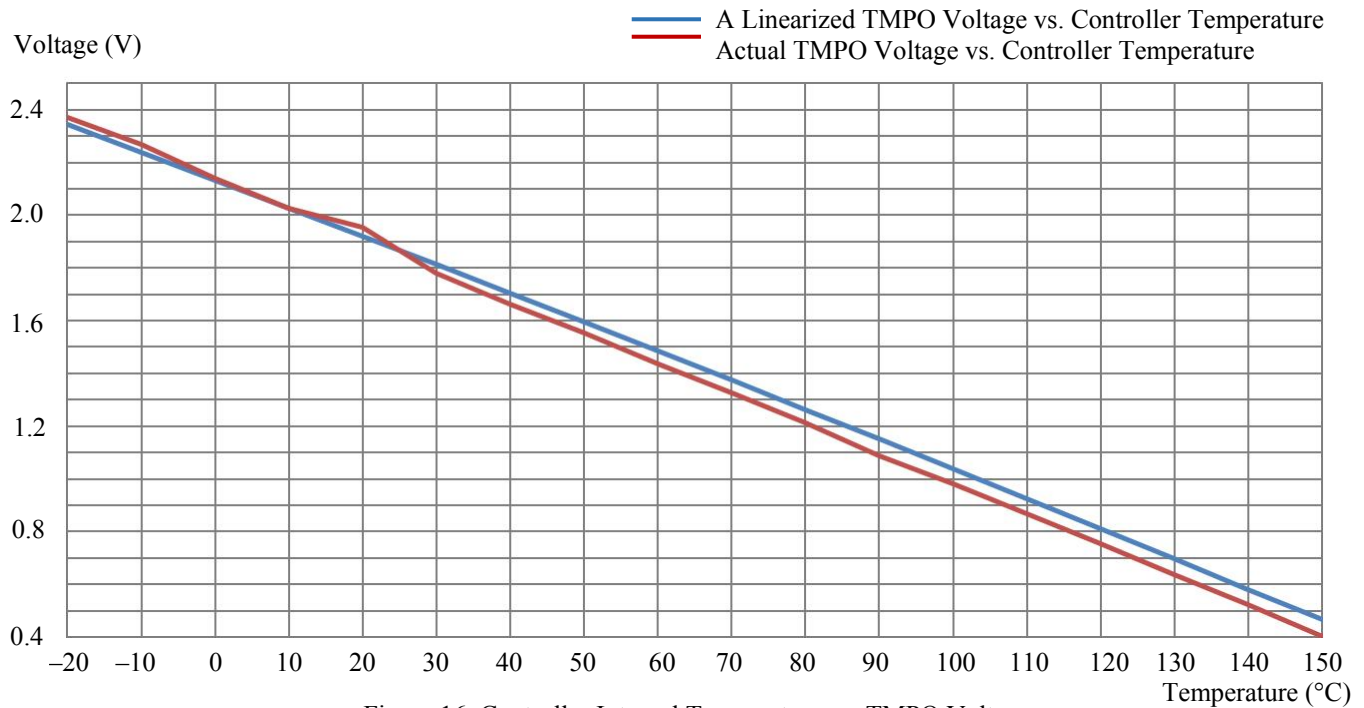

Figure 16. Controller Internal Temperature vs. TMPO Voltage
Within the most commonly used temperature range of between $0^{\circ}C$ to $100^{\circ}C$, the maximum error occurs at about 1.5V, at which the temperature error between the calculated data by using the formula (1) and the approximated data obtained by using the linear equation (2) is about $0.4^{\circ}C$, with the linear data being a little lower. The curves of the 2 sets of the data are plotted in Figure 16.